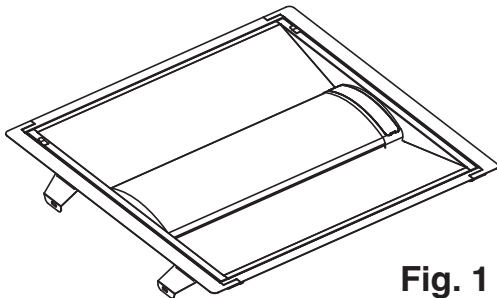

Fig. 1
1. Prior to installation, disconnect all incoming power to the luminaire. Remove the existing hardware (lens/lens frame or parabolic louver, reflectors/ballast covers, brackets, lamps/lamp holders, etc.). Leave the supply and grounding leads in place. (See **Fig. 1**) **NOTE:** Follow all federal and local regulations when disposing of lamps and removed components.
1. Prior to installation, disconnect all incoming power to the luminaire. Remove the existing hardware (lens/lens frame or parabolic louver, reflectors/ballast covers, brackets, lamps/lamp holders, etc.). Leave the supply and grounding leads in place. (See Fig. 1) **NOTE:** Follow all federal and local regulations when disposing of lamps and removed components.